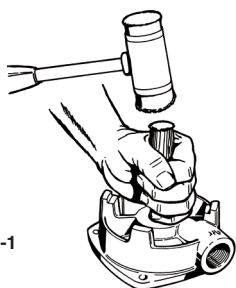

Figure 5-1
8. To remove the seat (#125). Refer to Figure 5-1. Place the motor bracket face down on a clean flat surface. Look into the opening in the center of the motor bracket, and you will see a portion of the seat. Insert the 11/16" dowel and, very gently, tap the seat until it drops out. Care must be taken with the seat. It is often a brittle material and is prone to breakage. **It is recommended that a new replacement seat be installed during reassembly.**